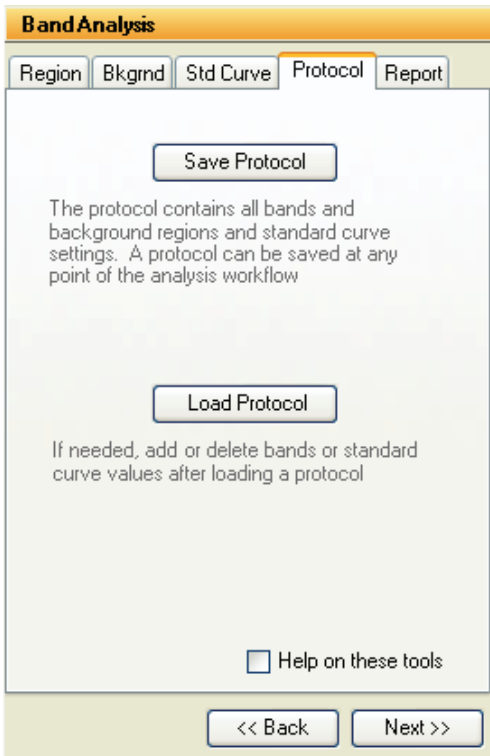

Figure 14. The Band Analysis Module showing the Protocol tab.
7. Saving Protocol and Analysis Settings. The Protocol tab is used to save and load protocols for use on replicate blots (Figure 14). A protocol or analysis contains all band and background regions created with the loading controls, band controls and standard curve settings used. A protocol or analysis may be saved at any point in the analysis workflow.